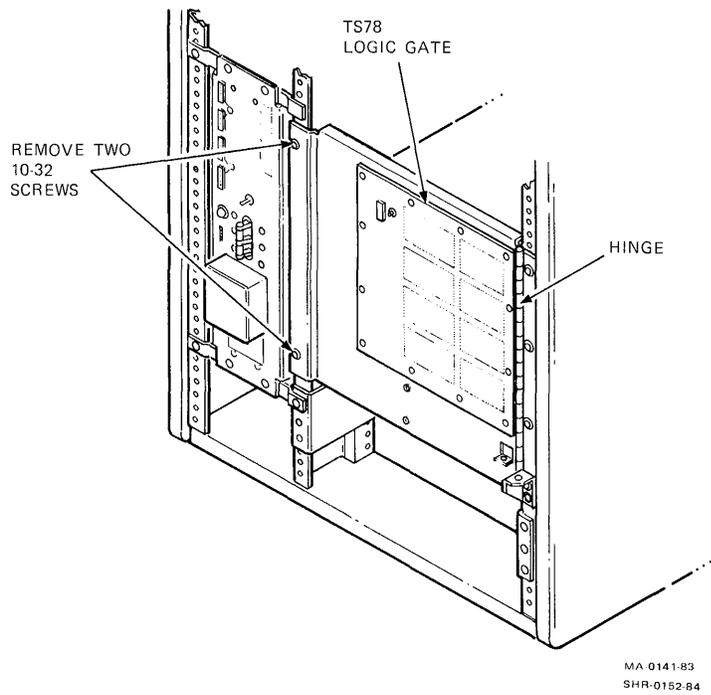

Figure 2-7 Releasing the TS78 Logic Gate
16. Remove the two 10-32 screws (Figure 2-7) securing the left side of the TS78 gate. Swing the gate out on its hinge. Loosen the two logic cover retaining screws (Figure 2-8) and remove the cover.